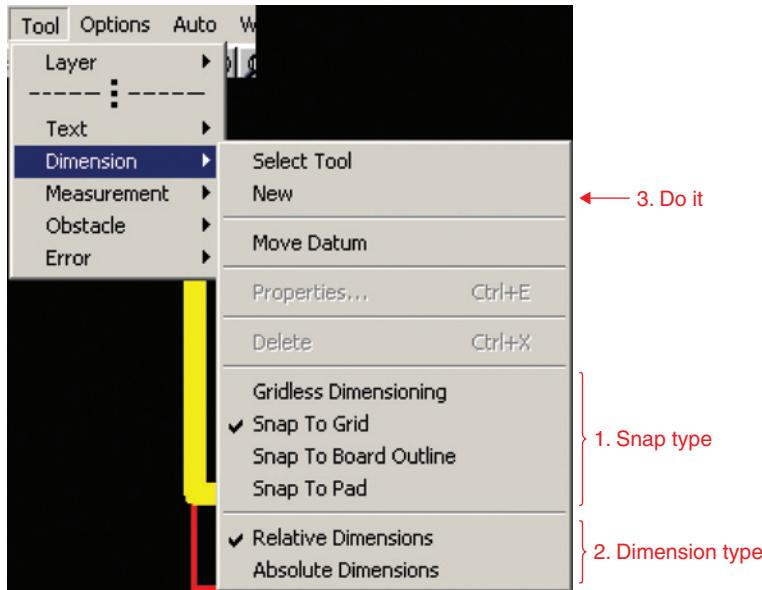

Figure 9-31 Setting up and placing dimension lines.
Adding dimensions and measurements is a three-step process. Each step is accomplished from the **Tools → Dimension** menu (see Fig. 9-31) and is used to (1) specify the snap settings, (2) specify the type of dimension, and finally (3) place the dimension.